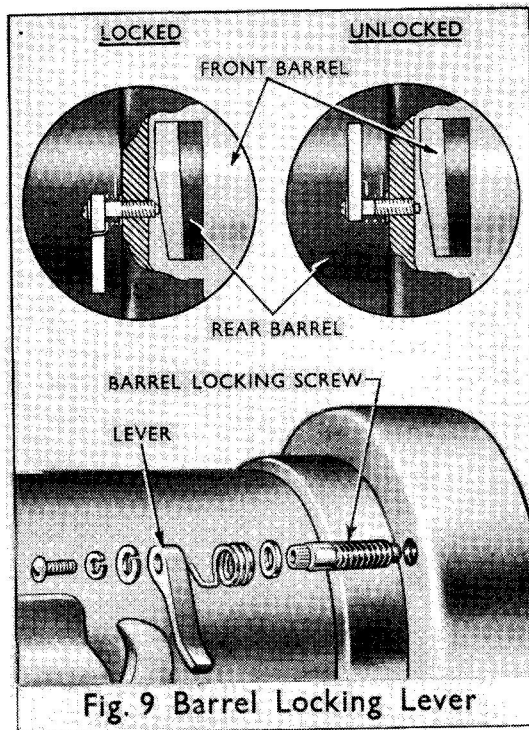

Fig. 9 Barrel Locking Lever
13.0. The barrel locking lever (Fig.9) is located at the front and on the right side of the rear barrel. It operates the locking lever screw which locks the joint of the front and rear barrel. When assembling the front and rear barrel, or when breaking the launcher down to the carrying position, the lever is raised to hold the screw in the unlocked position.